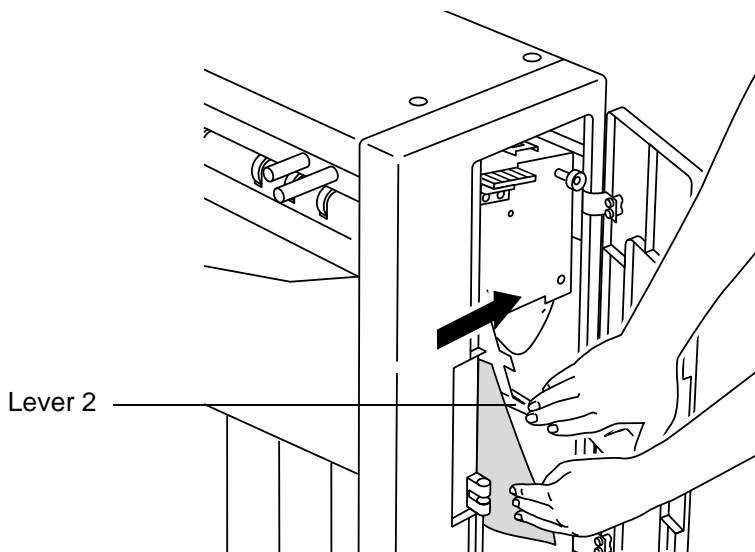

Figure 29 Pulling back lever 2
Step 4 Pull back lever 2 and remove any paper you find. See Figure 29.